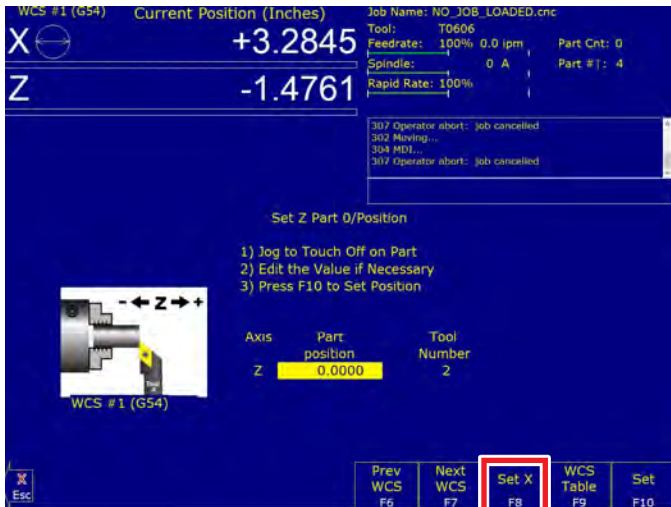

FIGURE 20
F. Once the Z is set we will now set the X Zero. Click on “Set X F8” (see Figure 20).